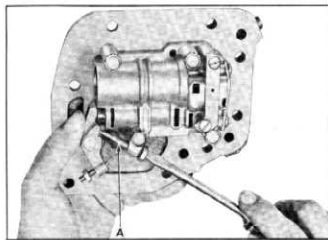

Fig. 190—Setting (1) of Throttle Valve Inner Lever Adjustment
justing screw "A" until it just contacts the flat surface of the step in the lever (fig. 190). Back off one (1) complete turn and lock in